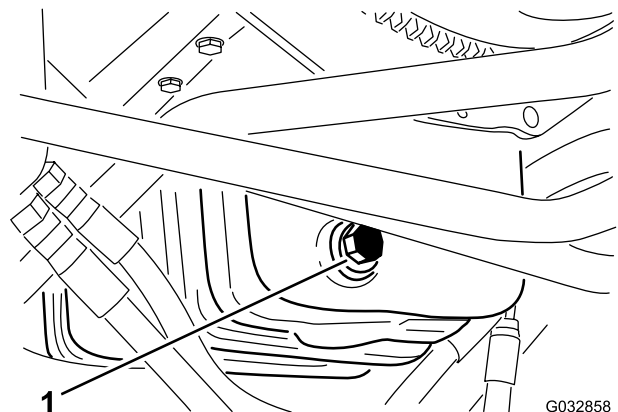

Figure 56
1. Remove the drain plug (Figure 56) and let the oil flow into a drain pan.